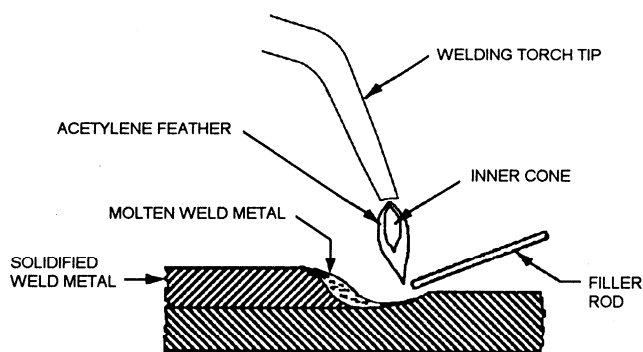

Figure 3-2.—Oxyfuel gas welding (OFW).
1. One of the most popular welding methods uses a gas flame as a source of heat. In the oxyfuel ____ process (fig. 3-2), heat is produced by burning a combustible gas, such as MAPP (methylacetylene-propadiene) or acetylene, mixed with oxygen.
One of the most popular welding methods uses a gas flame as a source of heat. In the oxyfuel gas welding process (fig. 3-2), heat is produced by burning a combustible gas, such as MAPP (methylacetylene-propadiene) or acetylene, mixed with oxygen. Gas welding is widely used in maintenance and repair work because of the ease in transporting oxygen and fuel cylinders. Once you learn the basics of gas welding, you will find the oxyfuel process adaptable to brazing, cutting, and heat treating all types of metals. You will learn more about gas welding in chapter 5.